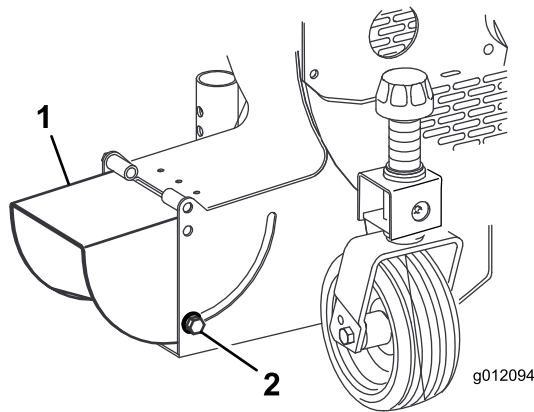

Figure 8
1. Loosen the discharge opening deflector mounting screws (Figure 8).